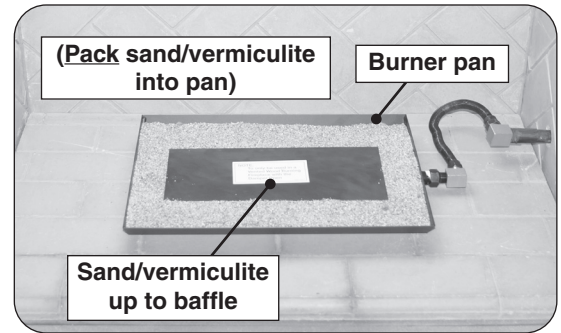

Fig. 12-1 Place sand/vermiculite
1. Partially fill the burner pan with the sand/vermiculite until it rests just below the center flame baffle as shown in Fig. 12-1.